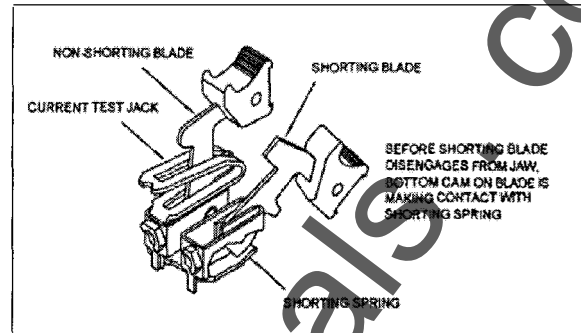

Figure 2. Blade assembly of 2 position pole "C-C" (rear view outside of base)
Each individual pole is of a knife blade type. There are two different types of poles, Potential and Current. Potential poles (P) are configured as single, non-shorting knife blades for use in potential, trip, or control circuits. Current poles are typically configured in sets of two (C-C), for use with current circuits, and consist of a current test jack, a shorting spring, a shorting blade, and a non-shorting blade (see Figure 2). The positions of the short circuit springs are always visible from the front of the switch.